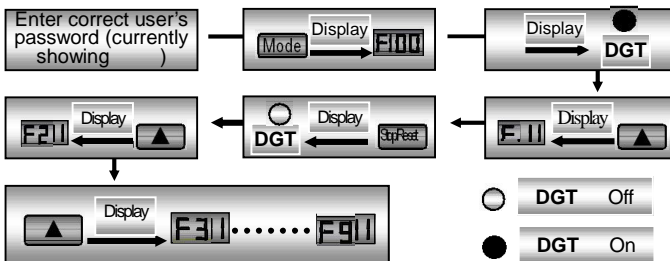

Fig 2-2 Switchover in a Code Group or between Different Code Groups
e.g. when function code shows F111, DGT indicator will be on. Press “ ”/“ ” key, function code will keep increasing or decreasing by degrees within F100~F160; press “stop/reset” key again, DGT indicator will be off. When pressing “ ”/“ ” key, function codes will change circularly among the 9 code-groups, like F211, F311...F911, F111..., Refer to Fig 2-2 (The sparkling “ ” is indicated the corresponding target frequency values).